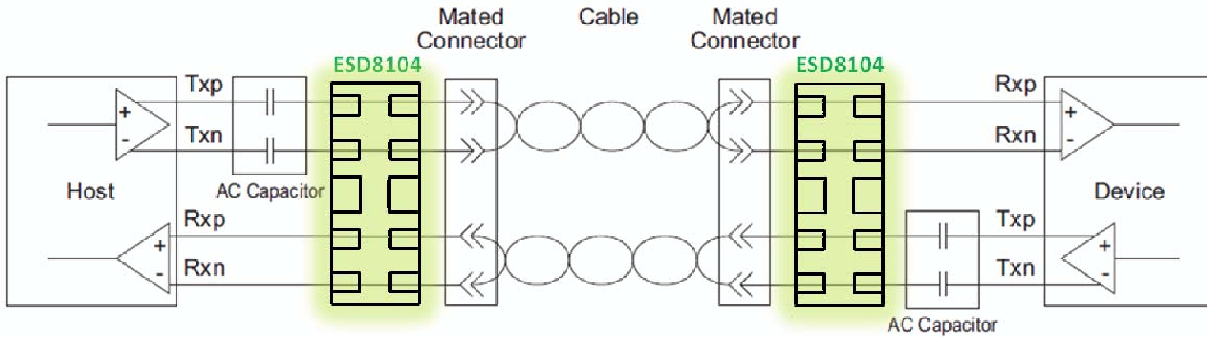

Figure 11. USB 3.0 Connection Diagram
- ◆ In USB 3.0 applications, the ESD protection device should be placed between the AC coupling capacitors and the I/O connector on the TX differential lanes as shown in Figure 11.